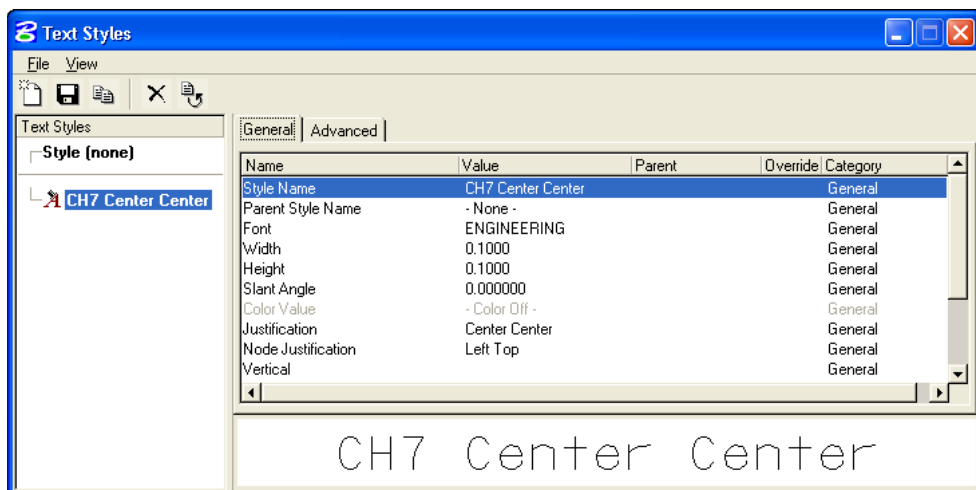

Figure P7–2 Initial Text settings
- STEP 5:** Click the **General** tab and enter the settings shown in Figure P7–2.